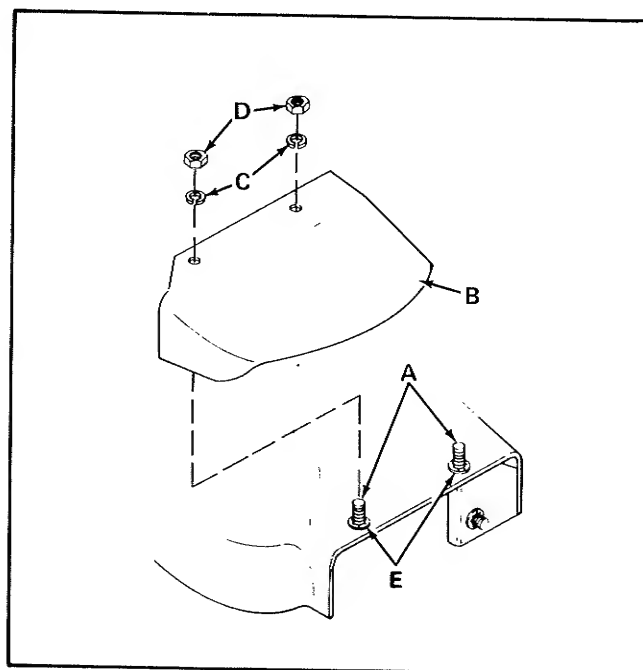

Figure 10. Remove Discharge Deflector
8. Remove discharge deflector (B, figure 10) from mower. The deflector is held in place by two carriage bolts, lockwashers and nuts (A, C and D).
9. Install two carriage bolts removed in step 8 upward through holes in mower. Place a pushnut on the end of each bolt. Use a box wrench to push the nut fully down on the bolt threads so it holds the bolts to the mower as shown in figure 10.